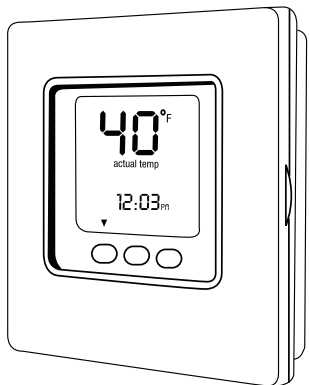

Fig. 16 – Lowest Temperature Setting
1. Set your room thermostat to the lowest temperature setting and set the "MODE" to "OFF." See Fig. 16.